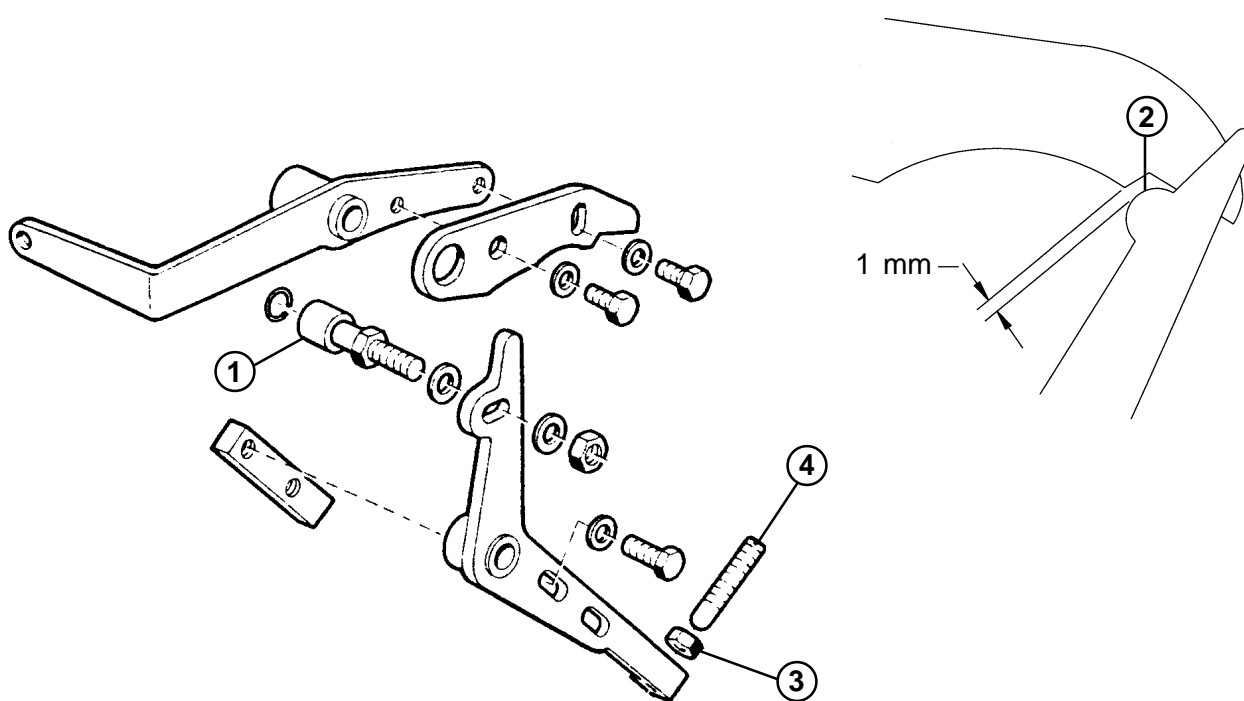

FIG. 3-16
E. TENSION RELEASE MECHANISM. Remove the cloth plates and set the machine to the Single Step mode of operation (See programming instructions page 4-1). Depress the start switch, the machine will cycle to the first stitch position. Depress the start switch a second time, the machine will complete the stitching phase of the cycle and stop after the last stitch. With the machine in this position insure that the tension release roller (Fig. 3-16, Item 1) is 1 mm from the lobe on the tension release arm (Fig. 3-16, Item 2). If it is not, loosen the locking nut (Fig. 3-16, Item 3) and set the gap using the adjusting screw (Fig. 3-16, Item 4).